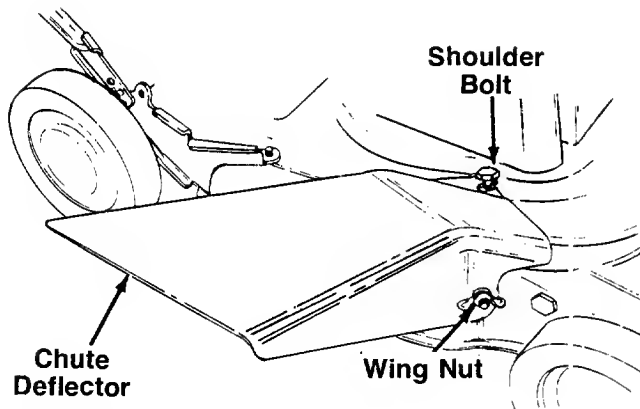

FIGURE 12.
2. Secure the front of the deflector to the bolt protruding from the deck with one wing nut. See figure 12.